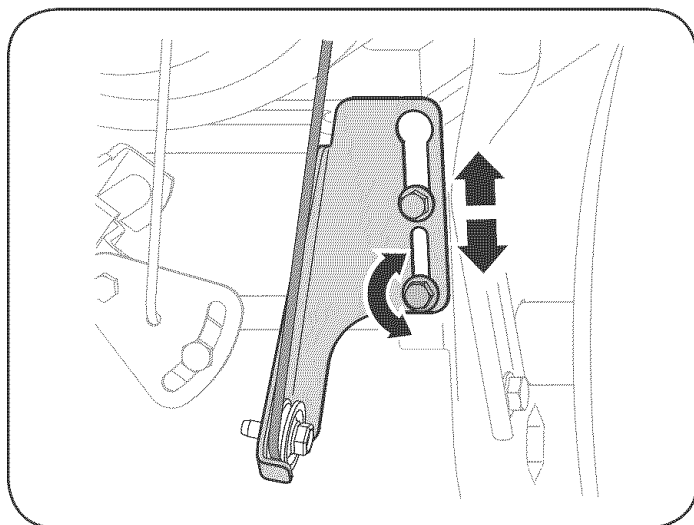

Figure 10
8. Loosen the lower tap screw on the drive cable bracket. See Figure 10.